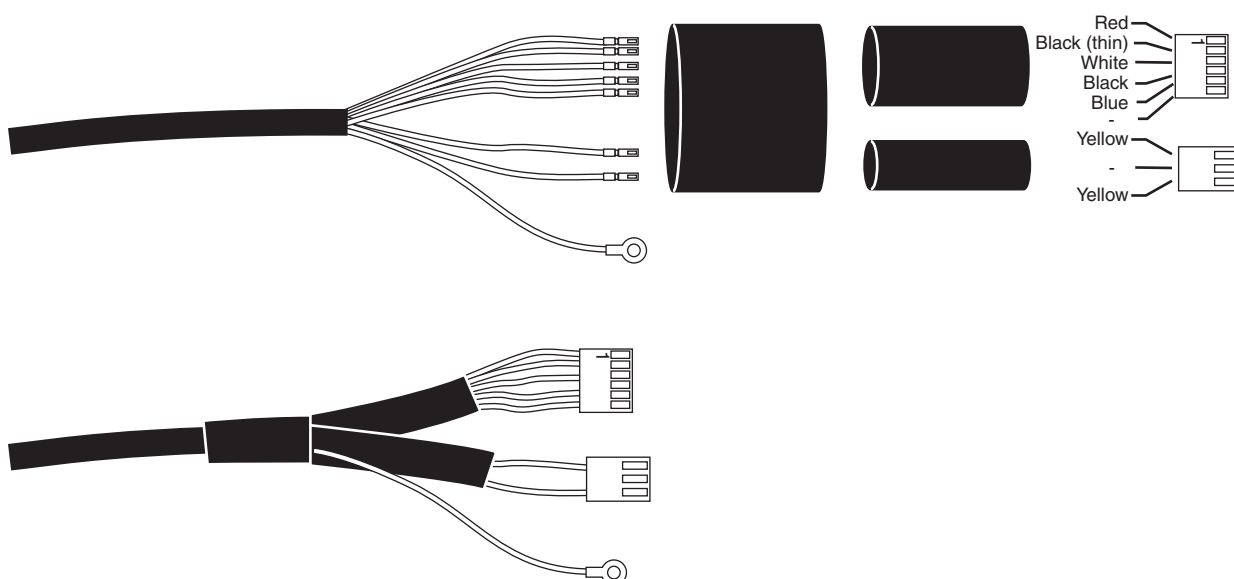

Figure 20
s) Connect the arm cable leads to the connectors as described in Fig. 20 below.